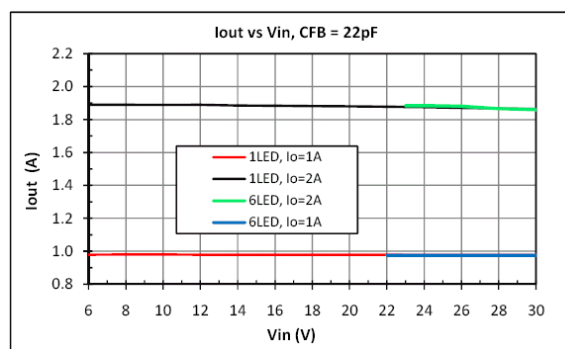

Fig. 5: Output Current vs Input Voltage
- i) Place the bypass capacitors C4 and C5 as close as possible to the 7600 IC. See figure 5 for details.